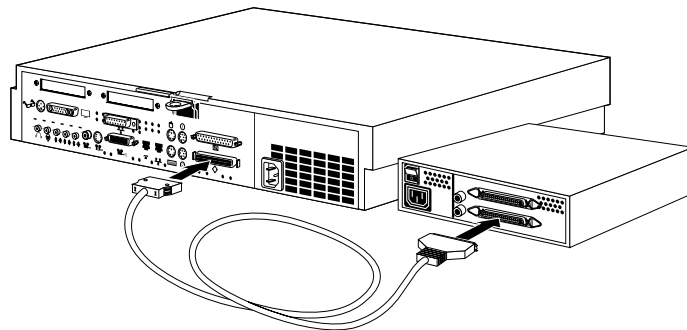

Figure 5-6 Connecting an External SCSI Device to the Indy Workstation
- To connect the device to the workstation, connect the flat, smaller end of the cable to the port above the SCSI icon on the back of the workstation, as shown in Figure 5-6.